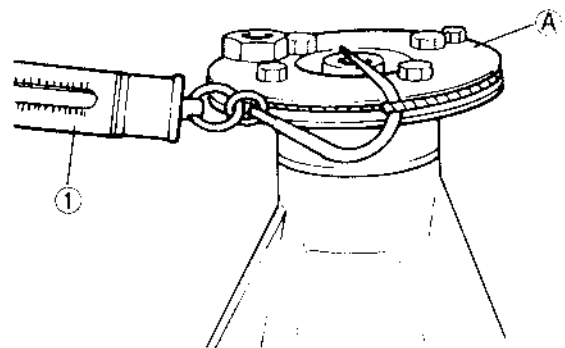

Fig. 16-23 ① Spring balance
The bevel pinion, as installed in normal manner in carrier, is required to offer a certain torque resistance when checked by using prescribed preload adjuster (special tool Ⓐ) as shown in Fig. 16-23. This resistance is a "preload," which is due to the tightness of the two tapered roller bearings by which the pinion is held in the carrier. And this tightness is determined primarily by tightening torque of bevel pinion nut. Adjust preload of bevel pinion bearings as follows.
- Adjust preload on side bearing during back-lash adjustment: mount special tool on drive bevel pinion as shown in Fig. 16-23 and measure using spring balance ①. If reading at the instant bevel gear starts moving is within the range given below, side bearing preload is acceptable. Referring to the graph, for example, when the drive bevel pinion bearing preload measured as shown in Fig. 16-23 is 2.6 kg (5.73 lb), drive bevel pinion bearing preload (kg) + bevel gear side bearing preload (kg) should be 2.8 – 3.2 kg (6.17 – 7.05 lb).